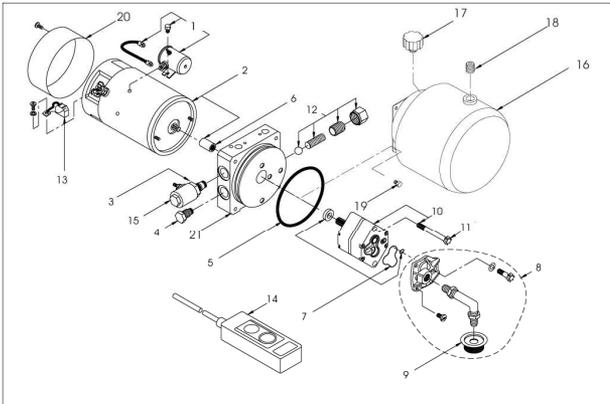
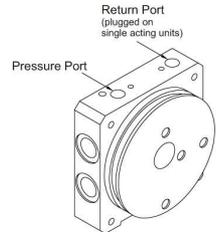

Fig 1.1 Power pack exploded view
Fig 2.1 Service ports
Fig 1.1 shows a basic **single acting** power pack which has a solenoid lower valve (item 3) to lower the load under gravity.
The **remote valve** version looks similar to the unit in Fig 1.1 however it does not have a solenoid lowering valve (item 3). The remote valve unit also utilizes the return port (see Fig 2.1).